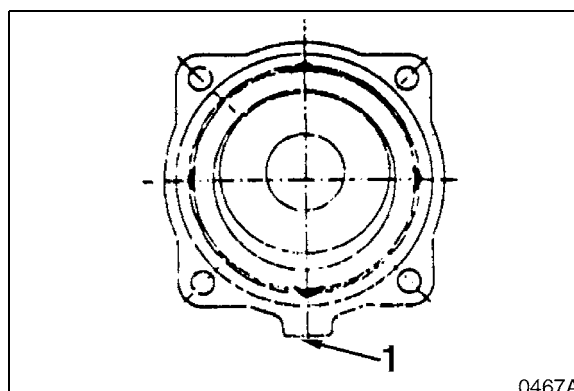

Figure 38 \
- Turn motor so that front cover side (304) is down. Put separator plates (743) and friction plates (742) back in same order in which they were removed. There are three separator plates (743) and two friction plates (742), which must be positioned as shown in drawing below, with clearance towards side of casing with brake valve (1, Figure 38).